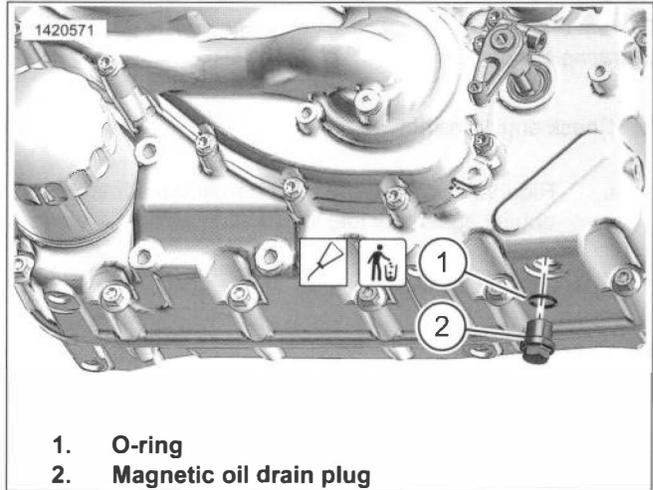

Figure 2-4. Oil Drain Plug
5. See Figure 2-4. Remove magnetic oil drain plug (2). Allow oil to drain completely.
- a. Remove and discard O-ring (1).
10. See Figure 2-4. Install **new** O-ring (1).
11. Install magnetic oil drain plug (5). Tighten.